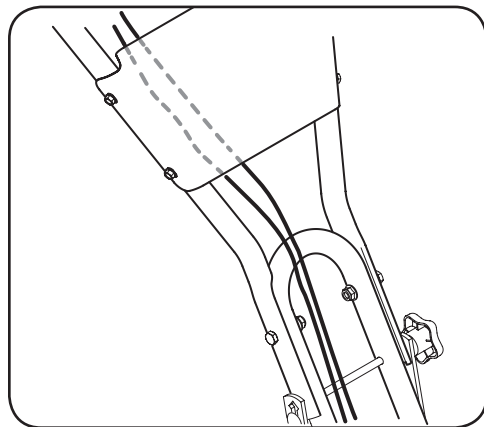

Figure 2-5
- Carefully unwrap the cable(s) from the shipping position. To attach the clutch cable(s), feed the cable(s) up the front of the lower right handle and behind the handle panel. See Figure 2-5.